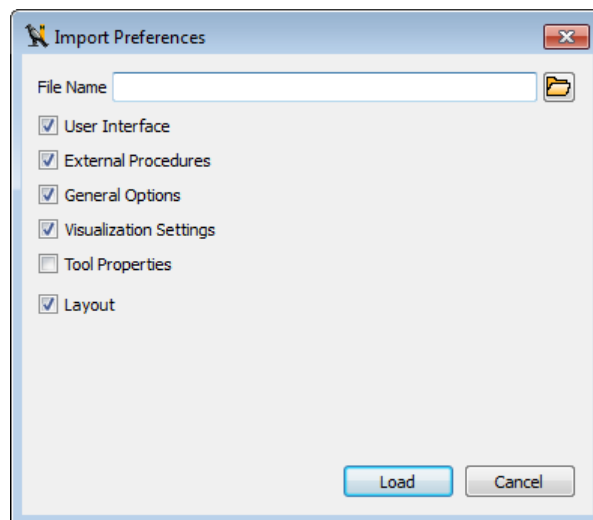

Figure 5.14: Import.
**Import** Using this menu entry you can import a selection of preferences which were previously saved using the menu entry Export (see below). The dialog is displayed in figure 5.14.